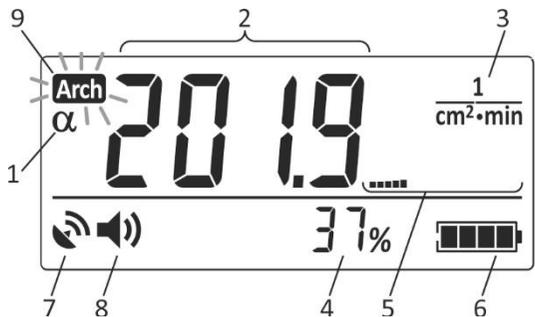

Figure 2.23 – LCD of the dosimeter
2.3.6.7.2.3 The LCD of the dosimeter displays the following in this mode (Figure 2.23):
- “α” symbol (1) – radiation type being measured;
- measurement result (2);
- dimension of measurement result (3);
- estimated limits of expected relative statistical deviations (5) of the measurement result (4) given 0.95 confidence probability, hereinafter referred to as the estimated limits of statistical deviations;
- instantaneous value indicator (5).
- battery status symbol (6);
- navigation receiver status symbol (7);
- symbol of gamma quanta, alpha or beta particles sounding status (8);
- sign (9) of critical filling of the dosimeter’s nonvolatile memory, where DE accumulation history is stored (2.3.4 of this OM).